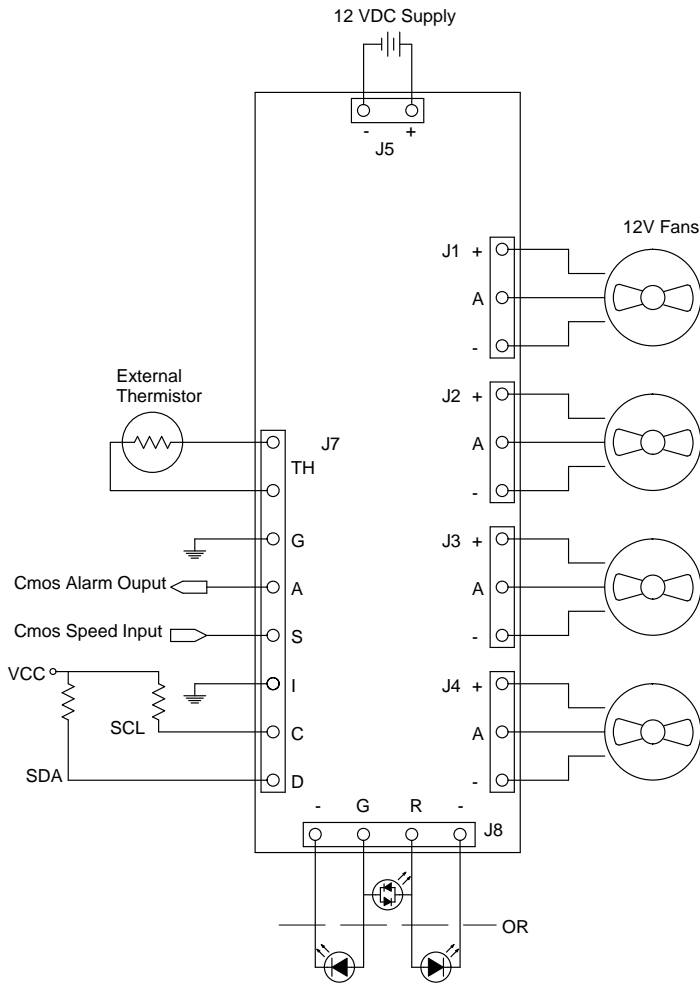

FIGURE 1.0: Connection diagram showing input power, fan, alarm, and temperature sensor connections for a Vortex Fan Control.
Refer to Figure 1.0 for input power wiring. One power supply in the range of 12 VDC +/- 20% should be connected at header J5. The Vortex can supply up to 5.0 Amps (still air) at 12 VDC to the fan load.
Four Fans: The Vortex distributes power to and monitors the tachometer signals from four three-wire fans. Referring to Figure 1.0, connect the fans to headers J1 through J4. Fan wires are usually color coded with red for +, black or blue for - and white or yellow for tachometer signal. Fan current at each fan header must not exceed 4.0 Amps. Total current required by the fans connected to the Vortex must not exceed 5.0 Amps (still air) at 12 VDC.
Temperature Sensor Control using Sensors: The Vortex can be configured to operate with either an external sensor or the on-board sensor, which is used to provide temperature based fan speed control and alarming. Referring to Figure 1.0, connect the external sensor if used to header J7. There is no polarity consideration when connecting the sensor. Temperature accuracy and hysteresis is 2°C.
Header J8 provides local indication of Alarm (R) and Normal (G) status. Referring to Figure 1.0, connect alarm LEDs to header J8. **All alarm circuits on the header J8 are non-isolated from input power (J5).** Choose single color LEDs or two leaded, bi-color LEDs with a rated forward voltage (V_f) between 1.6 and 2.4 VDC at a forward current (I_f) of between 15 and 25 mA. Nominal current applied to the LEDs is 8 mA.
A signal logic level alarm output is provided on header J7 to provide remote indication of alarm status. Referring to Figure 1.0, connect logic circuits to header J7. **All alarm circuits on header J7 are non-isolated from input power (J5).**